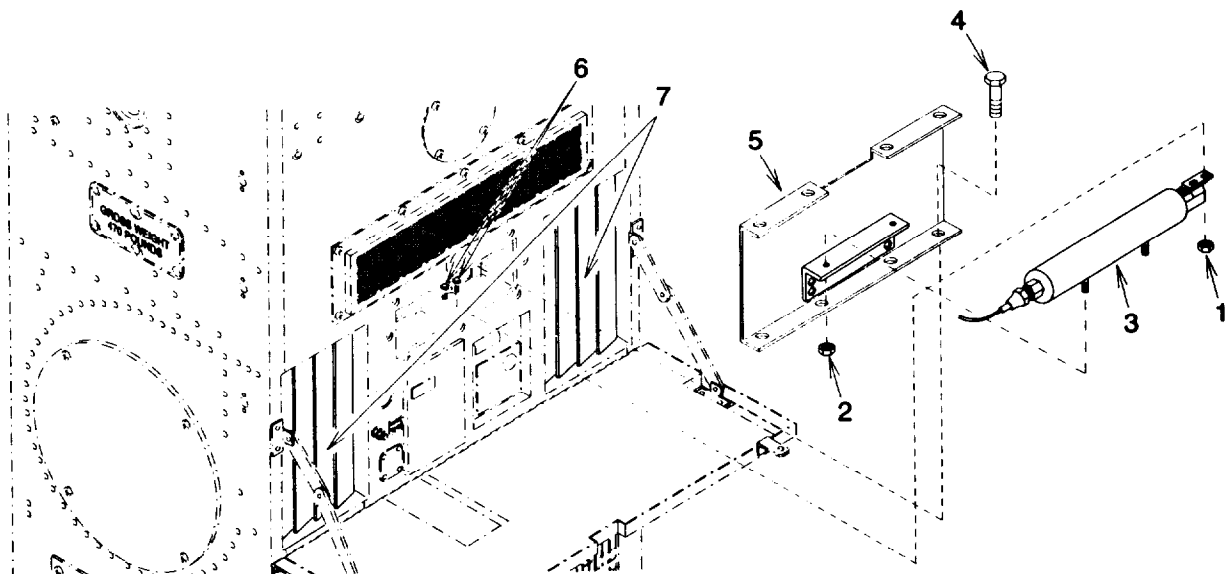

Figure 3-23. Actuator Mounting Bracket Panel
- 2 Remove and discard two self locking nuts (1) Figure 3-23.
- 1 Install panel (5) Figure 3-23 and eight screws (4).